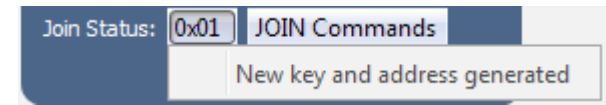

Figure 18: The Master Development System Software Join Status Register Description
10. The Join Status box shows the value in the JOINST register. This indicates the state of Join activity since the module was last reset. Clicking on the box opens a description of the value (Figure 18).